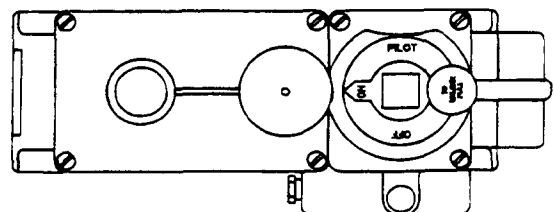

Figure 3
D. Turn safety valve handle to ON and power switch, if equipped, to ON. Refer to Figure 3.